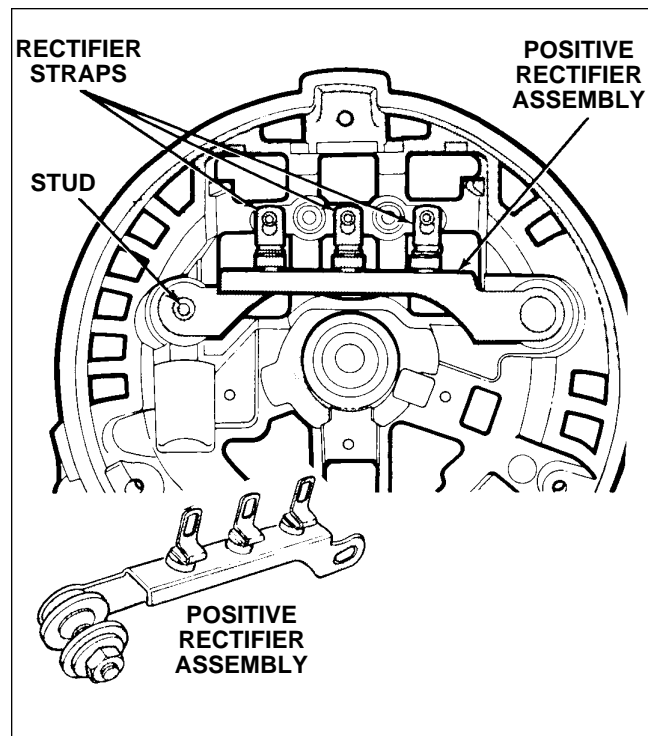

Figure 11-37. Installation of Positive Rectifier
h. Install positive heat sink assembly by placing battery terminal through round plastic insulator and capacitor end over heat sink mounting stud. Check three rectifier straps are over studs on terminal block. (Refer to Figure 11-37.)